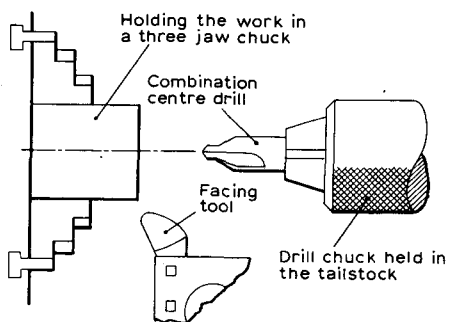

Fig. 4.193
**Drilling the centre holes.** The commonest method is to drill the holes on the lathe as shown in Fig. 4.193. The